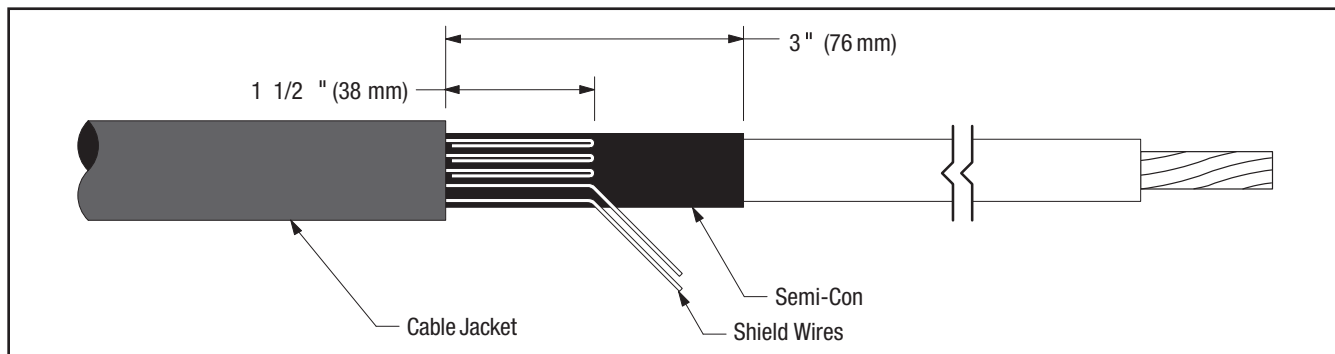

Figure 9
- 7.3 Bend leading 1 1/2" (38 mm) of exposed shield wires back upon themselves to jacket edge (Figure 9).